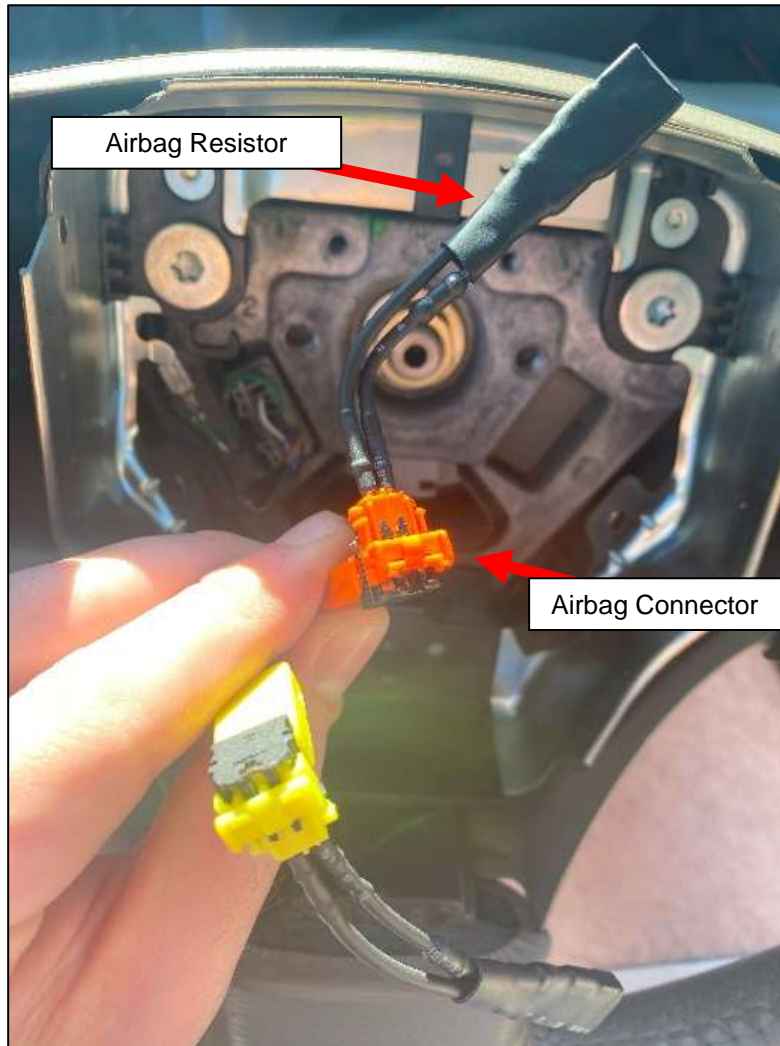

Figure 15
3. Locate the (2) two Airbag Resistors. Plug (1) one into each Airbag Connector disconnected from the OE Steering Wheel. These will prevent the car from throwing an Airbag Code. Wrap the Connectors and Resistors with electrical tape to prevent them from coming apart. Tuck them into the Steering Wheel after taping. *Figure 15.*